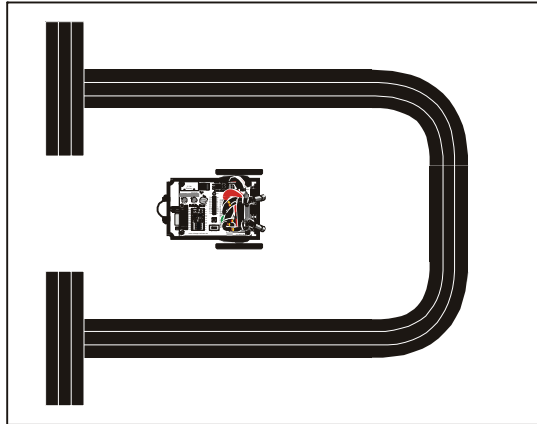

Figure 8-9
- ✓ Start by placing your Boe-Bot so that it is looking directly at the white background of your poster board as shown in Figure 8-9.